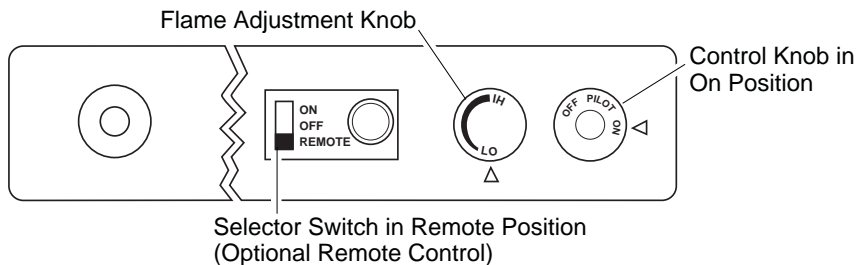

Figure 22 - Setting the Selector Switch, Control Knob, and Flame Adjustment Knob for Remote Operation
- 2b. Press the AUTO/ON/OFF button on the hand-held remote control (see Figure 22, page 16). The lights to the left of the button will show AUTO, ON, or OFF.